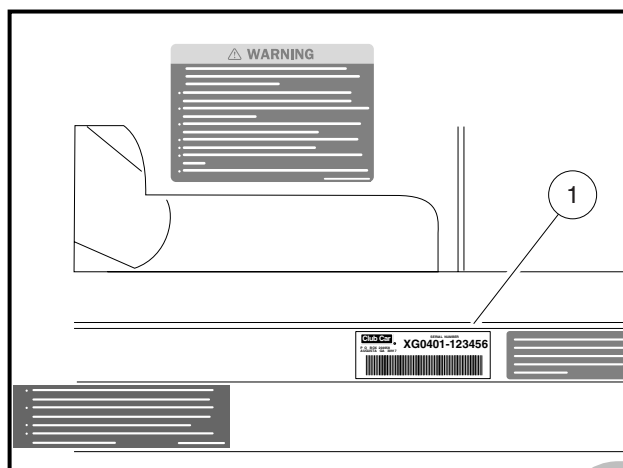

Figure 2 Serial Number
The serial number of each vehicle is printed on a bar code decal (1) mounted on the frame directly above the accelerator pedal (Example: XG0401-123456) (**Figure 2**). There is also a second serial number decal mounted on the front body frame behind the center dash panel. The center dash panel must be removed to view this decal. **See following NOTE.**